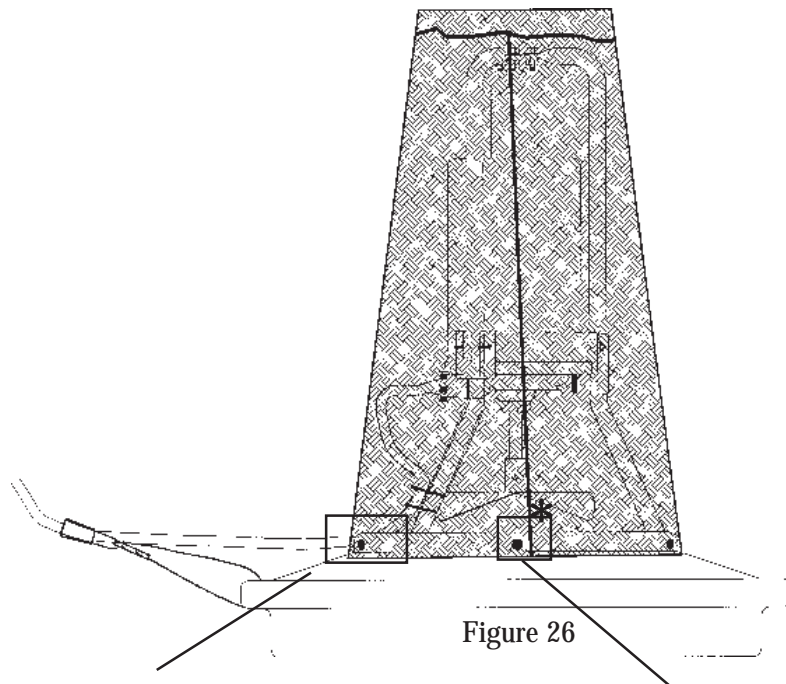

Figure 26
A. Pull screen over motor unit and support arms until it reaches the first ridge on the float - see Figure 26
B. Make sure the cord/cords are running through the cord trough where the float arms fit into the float (choose one cord trough for all of your cables - see Figure 26). Pull approximately two inches of the screen past the Mounting Ring. This is to insure that all of the cord troughs are adequately covered.
C. Fasten the screen to the float with the washers and screws provided. Fasten one screw and one washer on both sides of each cord trough - see Figure 26.
D. Screw the remaining screws and washers through the screen into float between the cord troughs - three places --see Figure 26.